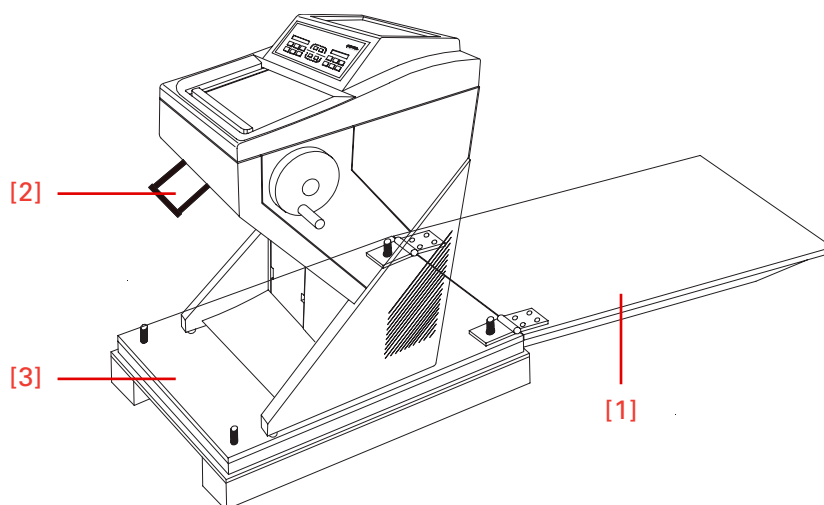

Figure 5a. Removing the bottom plate
The upper wooden cover now serves as an incline (fig. 5a.1) on which the cryostat can be moved from the pallet to the floor by using the handle (fig. 5a.2)
- The hinges of the upper wooden cover (fig. 5.1) are inserted into the screws of the bottom plate (fig. 5a.3). The correct side for this is marked with arrows.
- Turn the setting feet completely upwards via this tool so that the cryostat stands with its rollers on the bottom plate (fig. 5a.3).
- Via the handle (fig. 5a.2) roll the cryostat from the bottom plate (fig. 5a.3) over the wooden cover (fig. 5a.1). In doing so, the rear side of the instrument must show to the incline (fig. 5a.1).